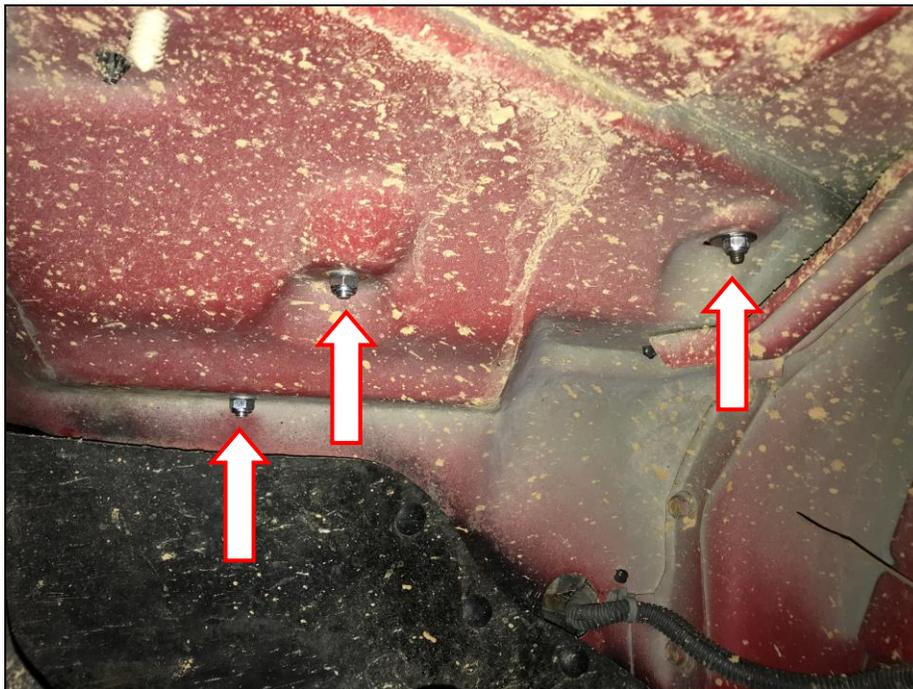

Figure 4
10. Install the iNTECH housing into the vehicle by aligning with two of the factory locations and the isolation mount with the slotted hole on the fender well (**Figure 4**).
11. Install both provided screws through the grommets from the inside of the iNTECH housing (**Figure 4**).
12. From the inner fender well, slip one washer and a locknut on each bolt and the isolation mount, tighten each (**Figure 4**).